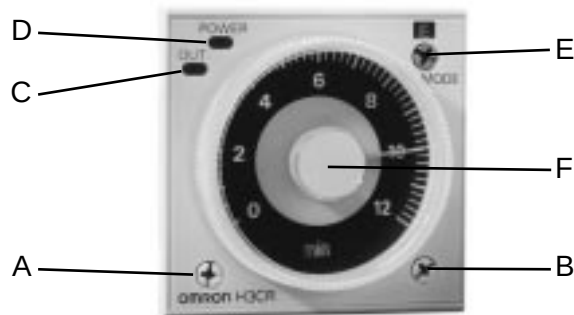

Fig. 2. Settings and indicators on the ReproSet timer. Do not alter the factory-set setting of E.
Figure 2 shows the different settings and indicators on the timer. These are: The 'timer range' (A), the 'time unit' (B), the 'out indicator' (C), the 'power indicator' (D), the 'mode selector' (E) and the 'time set dial' (F).